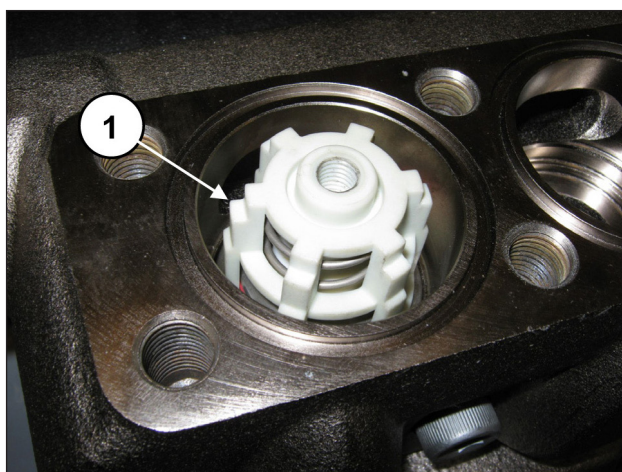

Fig. 163
The complete valve unit must be driven fully home and should appear as shown in pos. ①, Fig. 163.